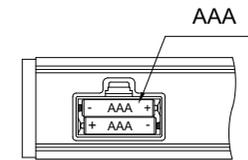

Fig.2
- Insert two AAA batteries as the Fig.2, install battery cover